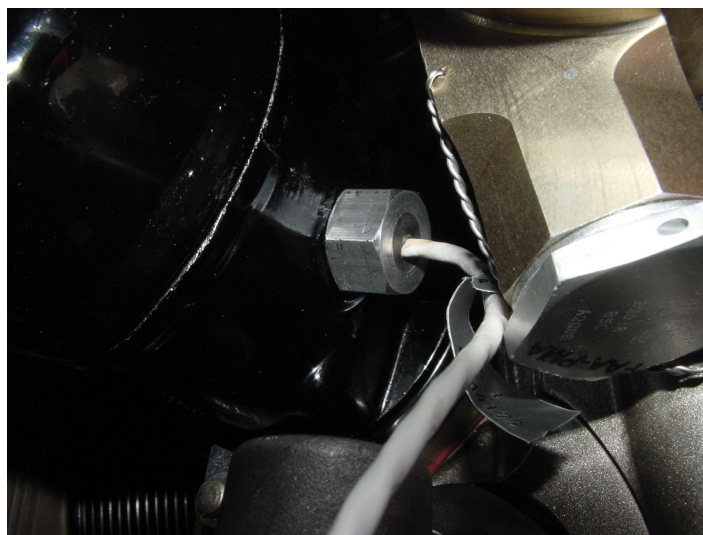

Figure 14-16 Magneto Tach Sensor Installed
3. Install the sensor into the port (Figure 14-16). The sensor should be installed finger tight plus 1/6 turn. Do not over-tighten.